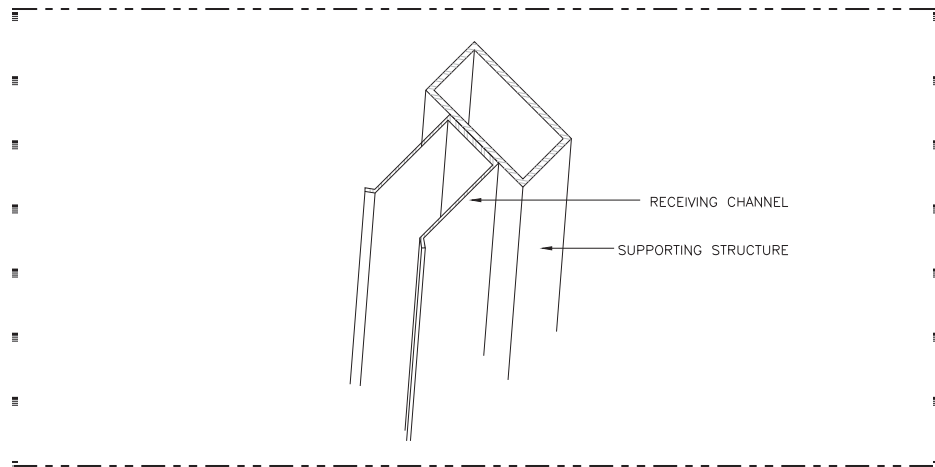

FIGURE 6
STEP 8 – Installation of Receiving Channel (Refer to Figure 6)